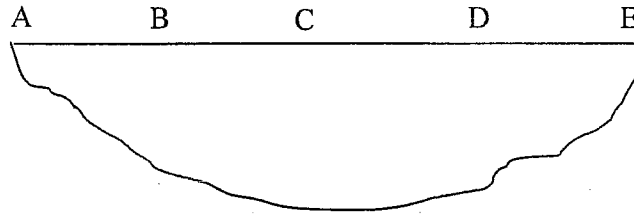

Fig. Q4. Stream section
- c. The following data was obtained for a stream of 4 m width (see Figure Q4, AE=4m) with a current meter.